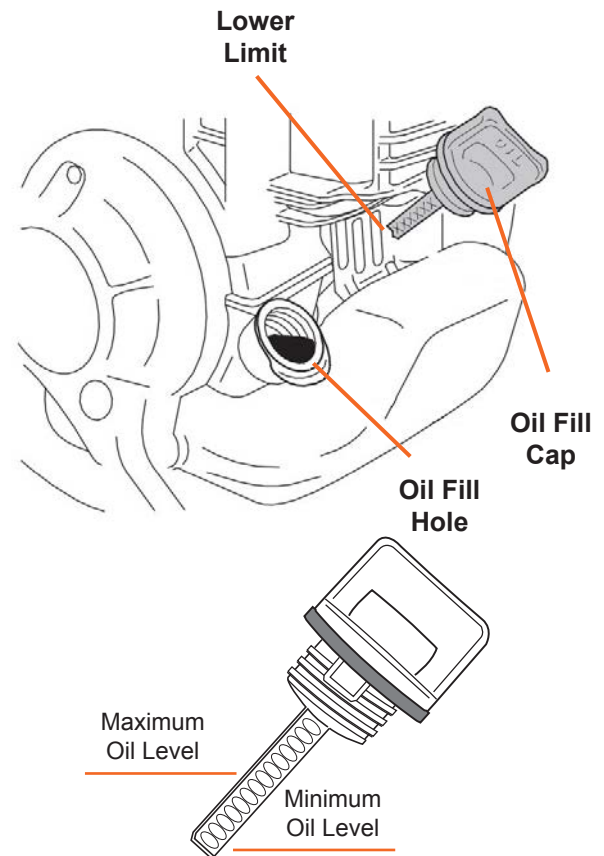

Figure 5
1. Remove the oil fill cap/dipstick and wipe it clean with a paper towel (see Figure 5).
4. Some oil will remain in the engine after draining. When refilling with fresh oil, start with about 2 ounces. Slowly add SAE 10-30W engine oil into the oil fill and wait one minute for the oil to settle, then continue filling with oil. Slowly add enough oil to fill to the bottom edge of the oil fill hole (see Figure 5).